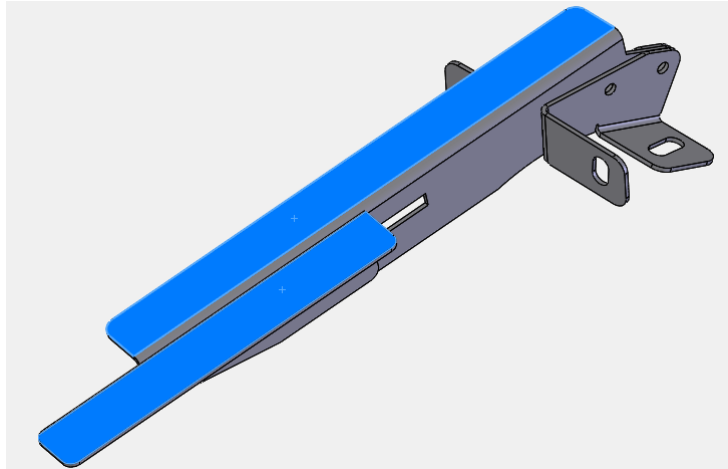

Figure 5: Bracket Faces to Apply Silicone to (Driver Side Shown)
9. Apply a generous amount of silicone to the mounting surface of the outside brackets, as shown in Figure 5.